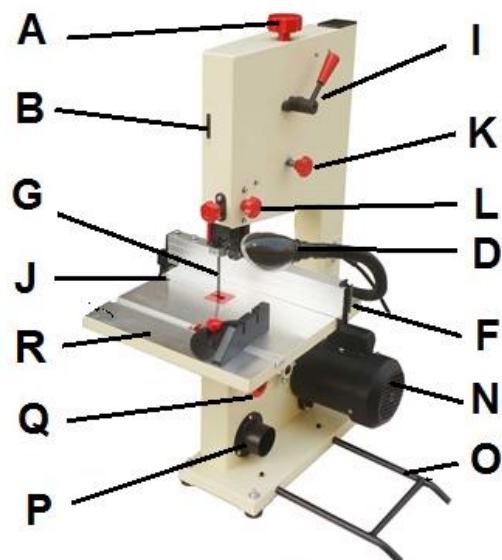

Fig 2
- Remove the table slot bolt (J, Fig 2) and wing nut.